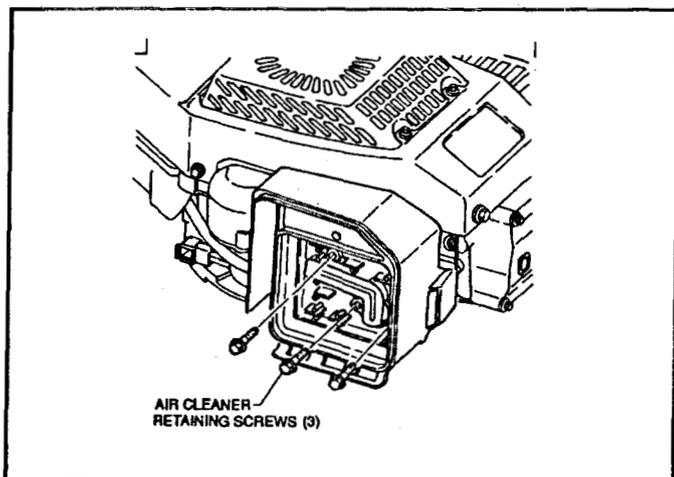

Figure 14
2. Remove the three 5/16" hex, washer head shoulder screws retaining the air cleaner to the carburetor. Take care not to lose the cork gasket that seals between the air cleaner body and the carburetor. See Figure 14.